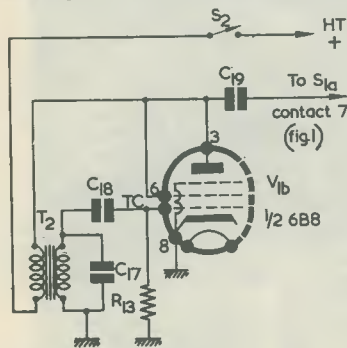

Fig. 3. The a.f. oscillator. This employs the pentode section of the 6B8, the diode section of this valve appearing in Fig. 1
- V1(a) ½6B8. (Pentode section in Fig. 3)
### Components List (Fig. 3)
The circuit of the 1,000 c/s oscillator is given in Fig. 3. This employs the pentode section of the 6B8, the diodes of which provided  $V_{1(a)}$  in Fig. 1. The pentode section is triode-connected.